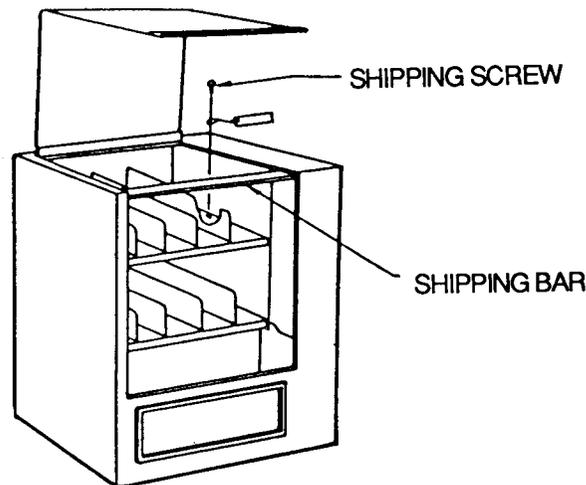

FIGURE 1
- \* Remove keys from product dispensing compartment (in small manila envelope) and unlock the service door. Raise the service door and remove the shipping bar across the top of the machine (see figure 1).
- \* Remove shipping screw holding top tray (see figure 1).